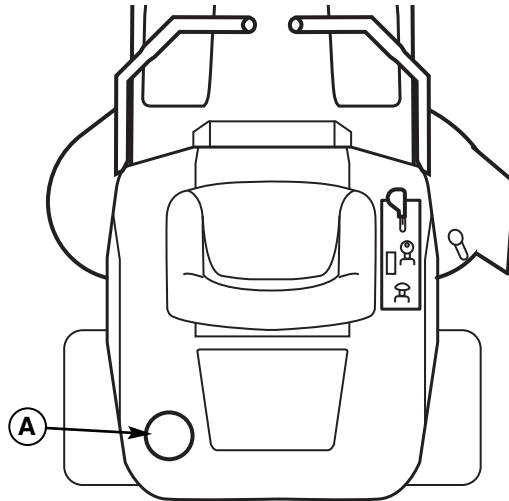

Figure 5. Pre-Start Checks
1. Remove the fuel cap (B, Figure 5).